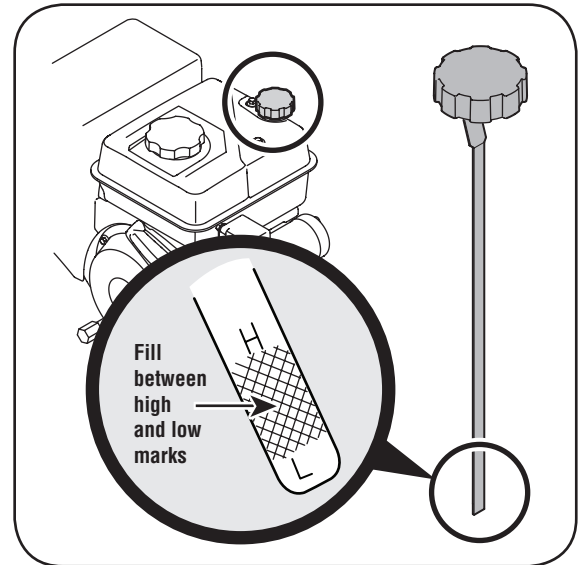

Figure 2-3: Checking the oil level.
1. Remove the oil filler cap/dipstick and wipe the dipstick clean, Figure 2-3.
3. Remove the oil filler cap/dipstick. If the level is low, slowly add oil until oil level registers between high (H) and low (L), Figure 2-3.